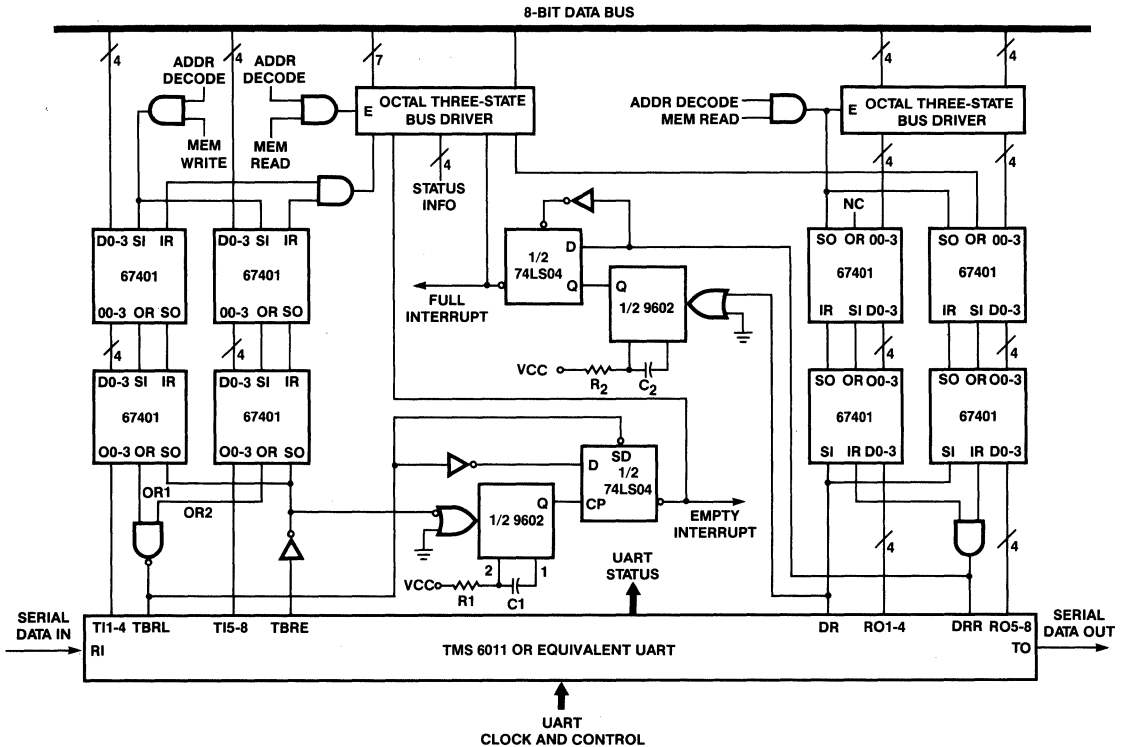
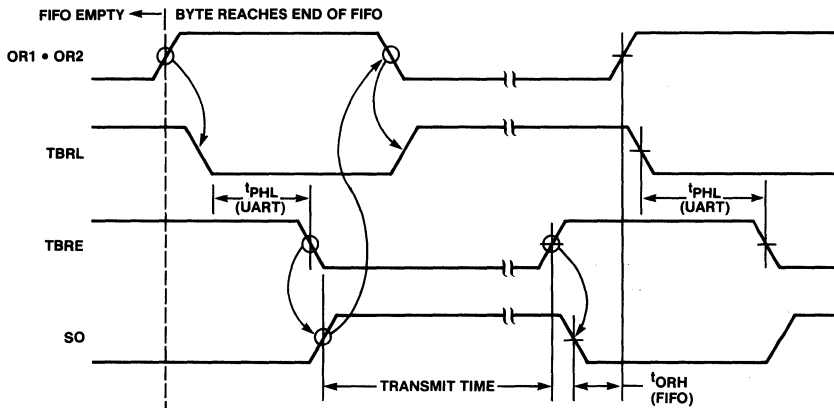
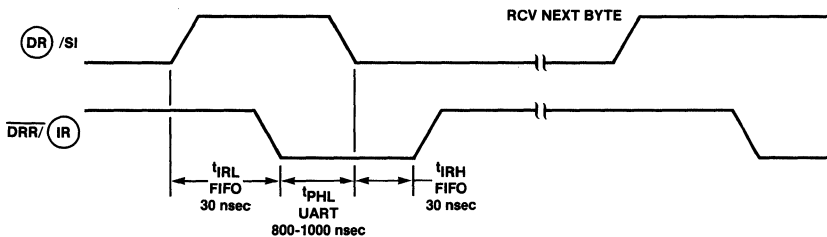

Figure 21. UART Data Buffer Logic for XMIT and RCV Using 67401 FIFOs
Figure 22. Timing Diagram, Transmit Buffer Operation
Figure 23. Timing Diagram, Receive Buffer Operation
accepts parallel data bytes from the computer's data bus, converts to serial data, and adds start, parity, and stop bits. The receiver section of the UART accepts serial data from a transmission line, modem, or terminal, validates the data by checking proper start, parity and stop bits, and converts the data to parallel bytes to be read by the computer on its data bus. In effect, the UART is a monolithic serial I/O port for the computer. Serial data rates up to 9600 baud are permitted by the UART, but much slower rates (110 to 300 baud) are commonly used to interface terminals. 110 baud corresponds to 10 bytes per second at the data bus. FIFOs can be used between the computer's data bus and the UART in both receive and transmit mode to match the low serial transmission rates to high speed bursts that make much more efficient use of the computer's time and memory space. A logic diagram for this interface is shown in Figure 21. Four 67401 FIFOs are connected in a series/parallel arrangement for both the transmit and the receive buffers. This arrangement permits a 128-byte buffer capacity for transmit and 128 bytes for receive. The buffers can be expanded easily in both width and length to accommodate different computers or greater buffer capacity.
The interface shown in Figure 21 allows the computer to write bursts of up to 128 bytes at the maximum data rate of the computer into the 67401 FIFO array. The input ready signals are ANDed together and fed back through a status port to the computer data bus so that burst data may be written under program control as rapidly as the write program will allow. The UART reads the outputs of the FIFO array one byte at a time, adds start, stop and parity bits and serializes the data to the serial output at the desired transmission rate (assumed to be much slower than the input burst rate). Assuming that the FIFO array is initially empty, the operation proceeds in accordance with the timing diagram in Figure 22. When the first parallel byte reaches the output of the buffer, the Output Ready lines go high. When both OR1 and OR2 have gone high, the NAND gate drives the UART's Transmit Buffer Register Load (TBRL) signal low. After the tPHL delay in the UART, the Transmit Buffer Register Empty (tBRE) signal goes LOW, causing the UART to
In many applications of the 67401 FIFO it is necessary to determine when the transmit buffer is empty or the receive buffer is full. The logic required to provide both these signals is shown in Figure 21.
The receive buffer logic is shown in the right hand portion of Figure 21 and the timing diagram is shown in Figure 23. The UART receives serial data with start, stop, and parity bits, evaluates parity, and converts the data to parallel bytes to be stored in the FIFO at the slow or erratic receive rate. The Data Ready (DR) signal of the UART is tied to SI on the two FIFOs and the two IR lines are ANDed together to drive the Data Ready Reset (DRR) line of the UART. When the FIFO is ready to accept a byte of data from the UART, the AND of the two IR signals holds DRR HIGH. If the UART has a new byte, it sets DR HIGH, driving SI HIGH to enter the new data into the input register of the FIFOs. After the t_{IRL} delay, IR goes LOW driving DRR LOW. After the t_{PHL} delay in the UART, DR goes LOW driving SI LOW. If the FIFO is not full, IR returns HIGH after t_{IRH} indicating to the UART that the FIFO